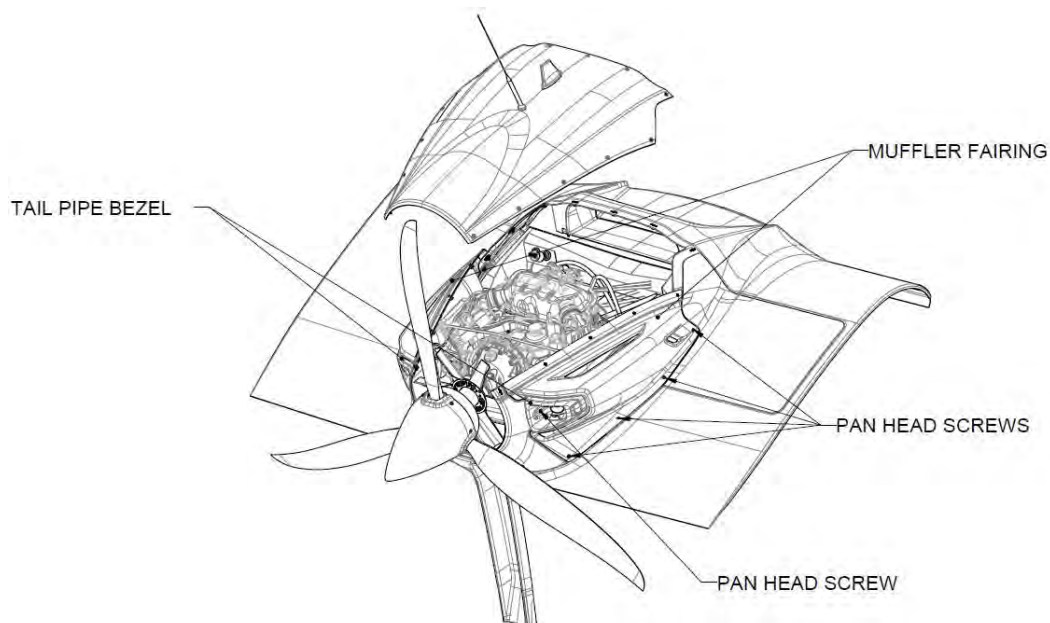

FIGURE 16-5
4. Remove the LHS and RHS muffler fairing with the tail pipe bezel by removing nine Torx button head screws using a #20 Torx driver. (See Figure 16-5.)